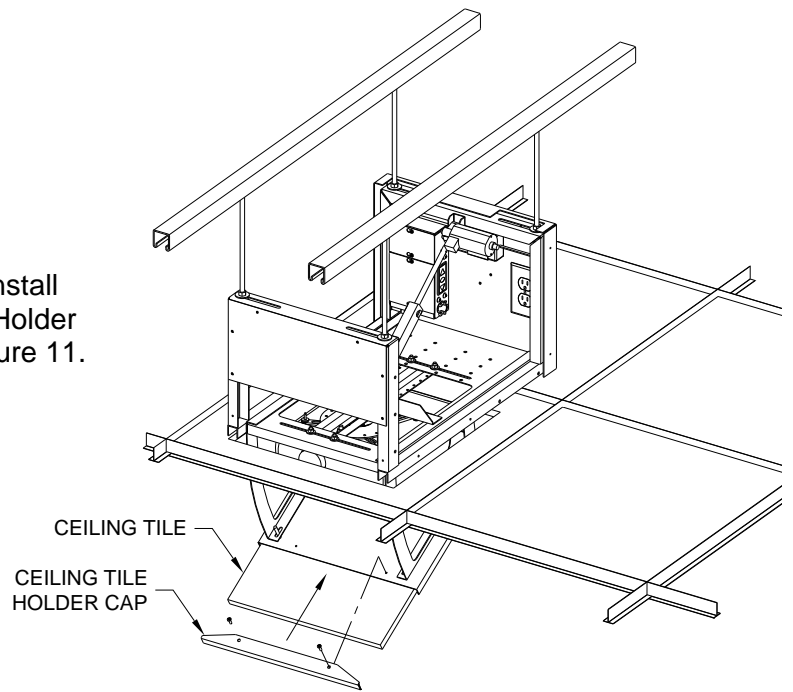

Figure 11
10. Remove Ceiling Tile Holder Cap from Da-Lift. Install Ceiling Tile cutout from step 6 into Ceiling Tile Holder and assemble Ceiling Tile Holder Cap. See Figure 11.